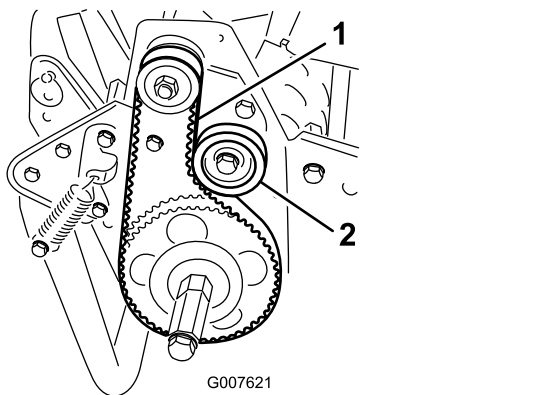

Figure 44
- 2. Check the tension by pressing the belt at mid span of the pulleys (Figure 44) with 18 to 22 N (4 to 5 lb) of force.
- A. Loosen the idler-pulley mounting nut and pivot the idler pulley clockwise against the backside of the belt until the desired belt tension is attained (Figure 44).